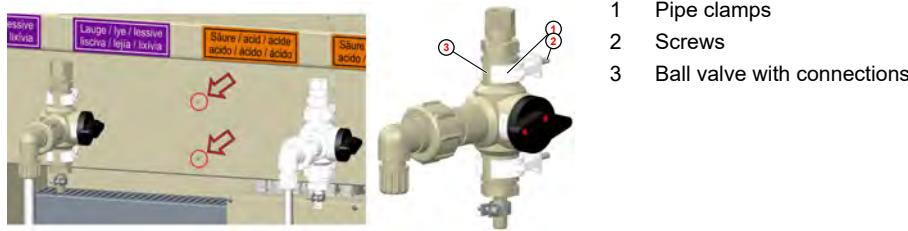

Fig. 11: Assembling the product sampling valve
1. ➤ Assemble both pipe clips (no. 1) with screws (no. 2) in the intended position (Fig. 11 , arrows) of the ELADOS Pump Rack stand.